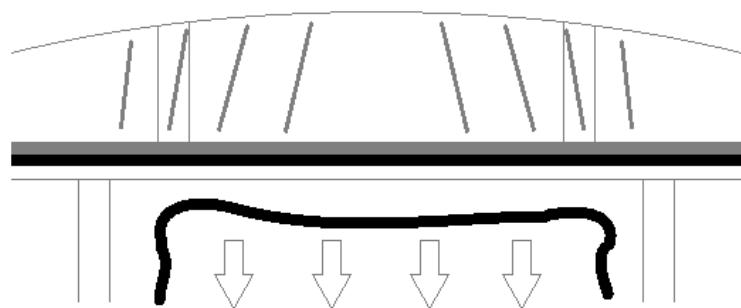

Fig109
- **STEP 1:** At one end of the polytunnel, trap the polythene tight up to the rebate with a pre-nailed batten in the centre of the lintel for approximately 12 inch either side of centre – The polythene should be smooth along this 2ft length with no creases (Fig109).